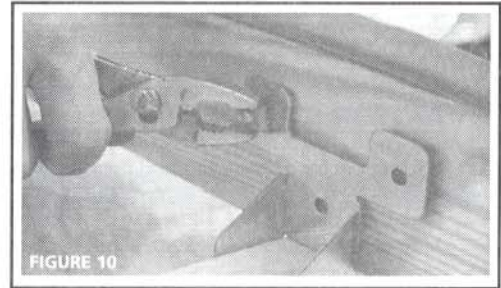

FIGURE 10
4 With hardware provided, mount saddle brackets (2) to inside of fan frame in pre-drilled holes (Figure 10). Cut out shutter opening marked on ceiling. Pass fan into attic through ceiling cut-out. Set fan on joist. Saddle brackets will center fan along joist.